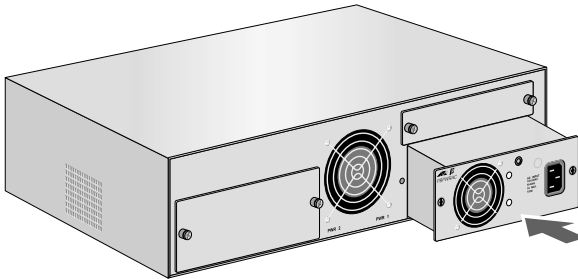

Figure 18 Installing the Main Power Supply
3. Slide the power supply into the slot, gently seating the power supply's connector into the chassis' backplane. See Figure 18.